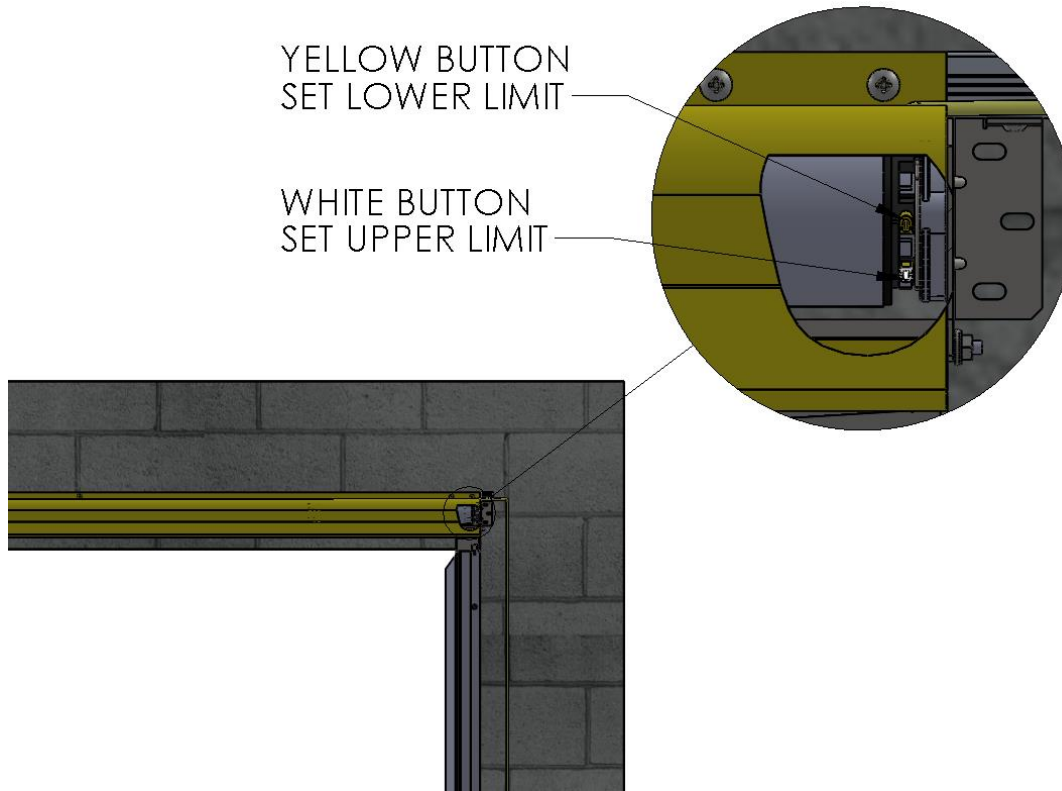

Figure 4: 600 SERIES DOOR RAISE/LOWER DOOR ADJUSTMENT
- Always, **FIRST JOG THE DOOR DOWN** toward the closed position. Observe where the lower limit stops the door and adjust accordingly by depressing the upper button at the end of the motor. (See Figure 4 on page 5) Run the door partially upward, stop, and then close again a few times up and down to make finer adjustments for the closed position as desired.
- Now open the door and note the upper stop point. Adjust in the same way using the lower button at the end of the motor. (See Figure 4 on page 5) Repeat a few times until the desired upper stop position is finally achieved.